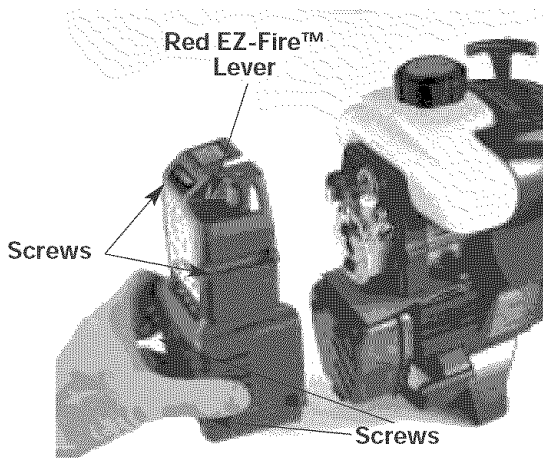

Fig. 18
1. Remove the four (4) screws securing the air filter/muffler cover (Fig. 18). Use a flat blade or T20 Torx bit screwdriver.
2. Insert the four (4) screws into the holes in the air filter/muffler cover (Fig. 18) and tighten.
9. Reinstall the air filter/muffler cover (Fig. 18).